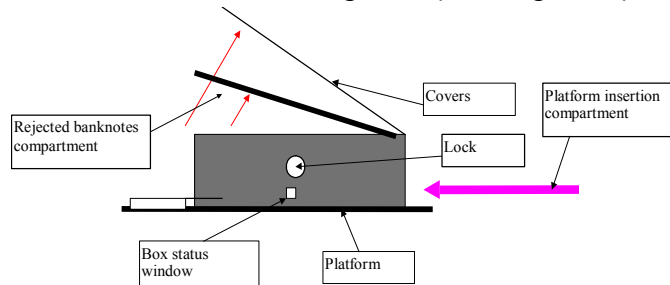

Figure 2 – 1-denomination change-giver box
- turn the key in the box lock, so that the status window becomes green (see Figure 2);